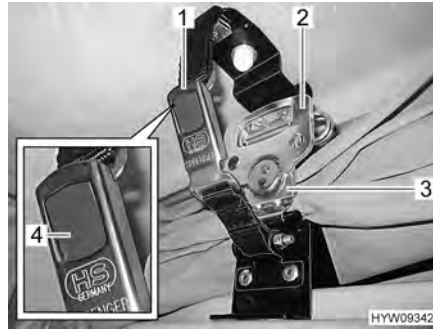

Fig. 39 Lock (elevating roof)
- On both sides, pull down the quick-action turnbuckle (Fig. 39,3) and hang it into the holding plate.
- On each side, fold out the handle (Fig. 39,2) of the quick-action turnbuckle and turn half a turn in a clockwise direction.
- Plug both parts of the snap lock (Fig. 39,1) together, respectively. The grey tongue (Fig. 39,4) engages.